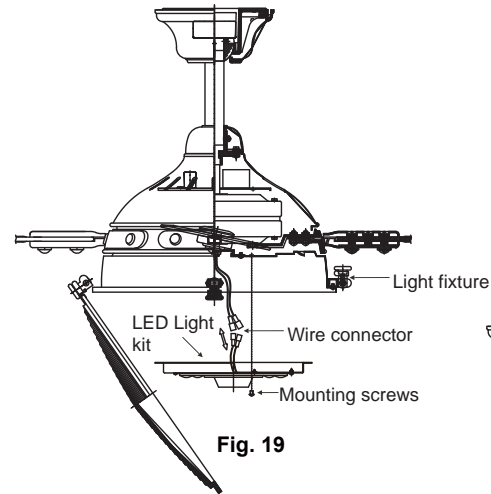

Fig. 19
Step 1. Loosen the three mounting screws on the inside of the light fixture and "remove" and save the fourth screw. (Fig.19)
Step 2. Hold the light plate close to the light fixture and connect the white wires from the light plate and the fan. Follow the same procedure with the black wire connectors: (Fig. 19)
Step 4. Place the light plate key hole slots over the three screws previously loosened on the light fixture and turn the light plate until it locks in place at the narrow section of the key hole slots. Tighten the three key hole screws and replace the fourth screw previously removed and tighten securely. (Fig. 19)